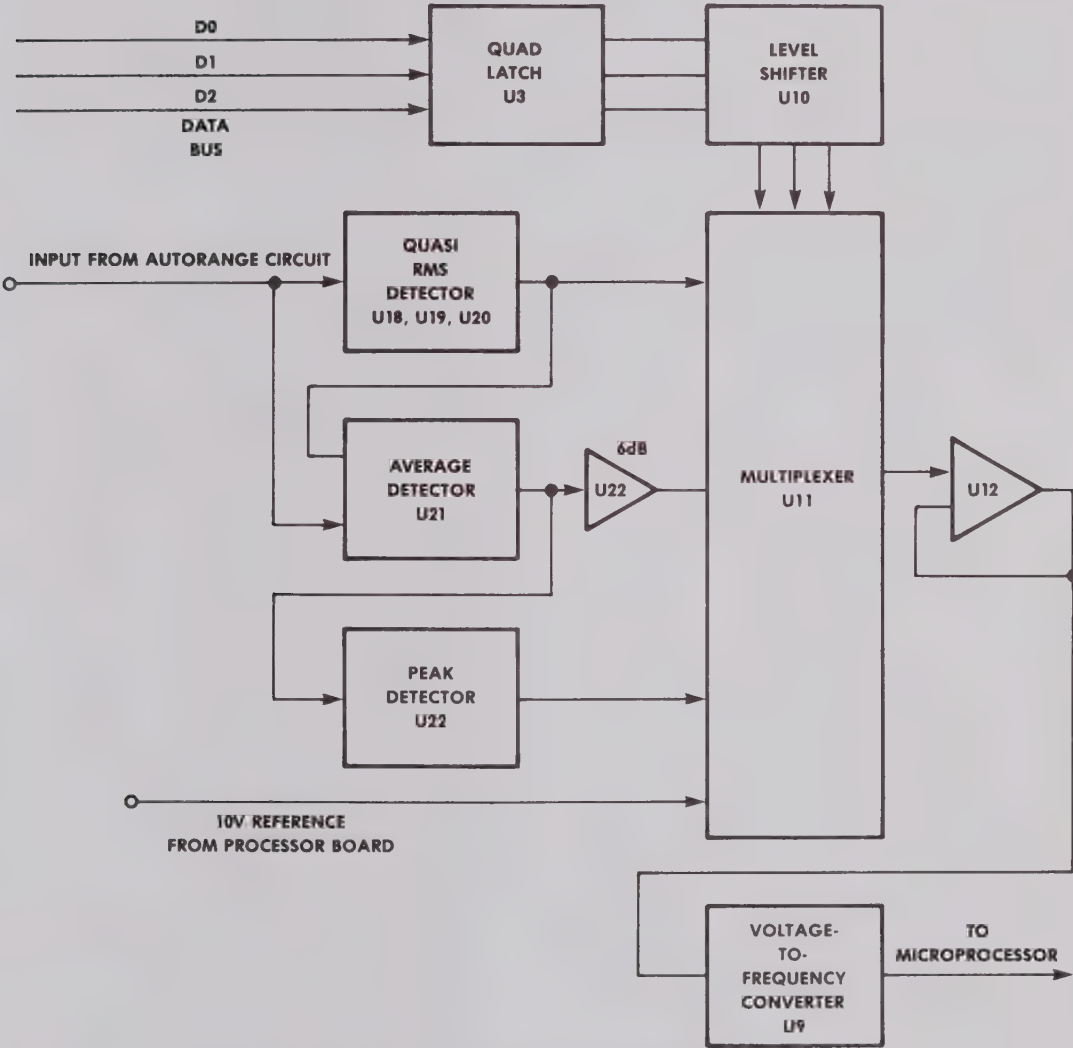

Figure 2.7-4 Block Diagram of the Detector Circuitry
2.7.7 The Model 1125 uses three different detectors: (1) full wave average (U21), (2) quasi RMS (U18, U19, U20), and (3) peak (U22). (See Figure 2.7-4.) All of the detectors require a full-wave rectified signal. This full-wave rectified signal is generated by adding the input AC signal to a half-wave rectified signal of twice the peak amplitude.